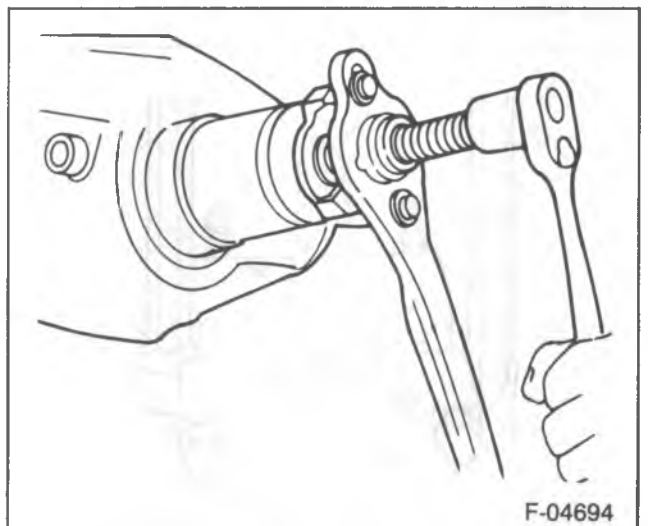

Figure 6—Removing the Pinion Flange
17. Pinion flange using J 8614-01 (figure 6).
18. Pinion (15) from the axle housing.
- Replace the differential cover (34) with two bolts (35) to keep the pinion from falling to the floor.